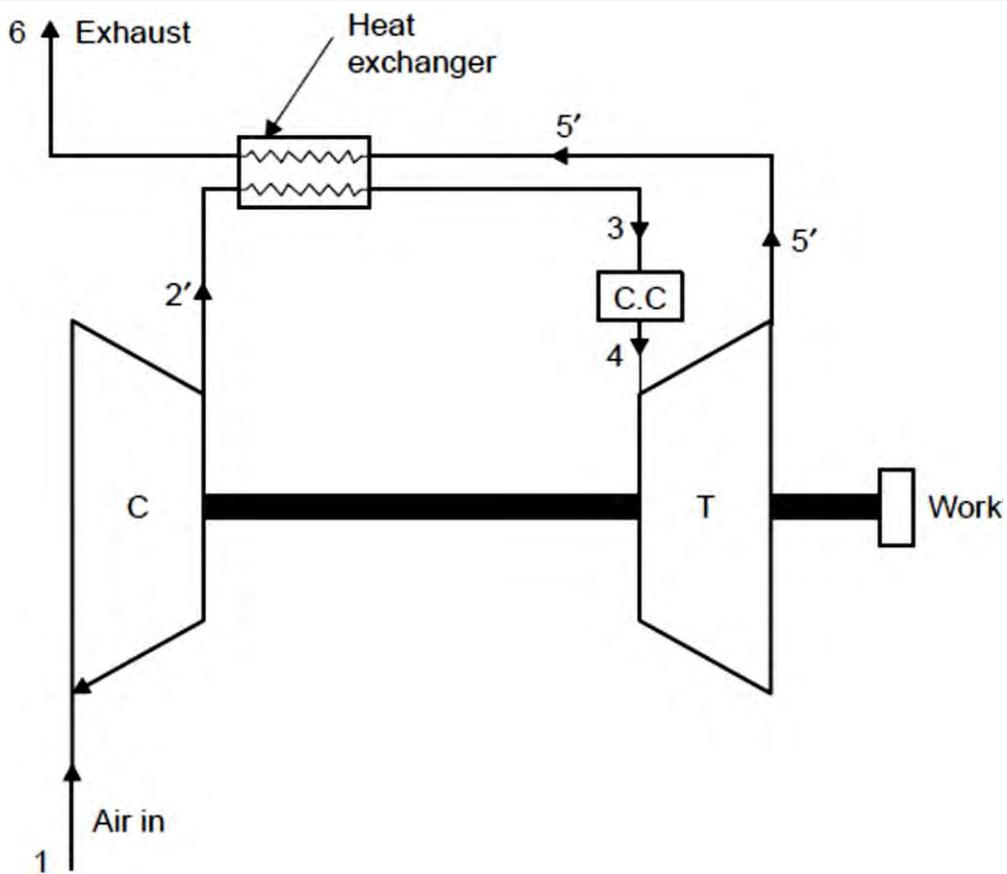

Fig. 7.18 Open cycle gas turbine plant with regeneration
- The corresponding schematic and T-s diagram is shown in Fig. 7.18 & 7.19 respectively. The actual processes take place as follows :